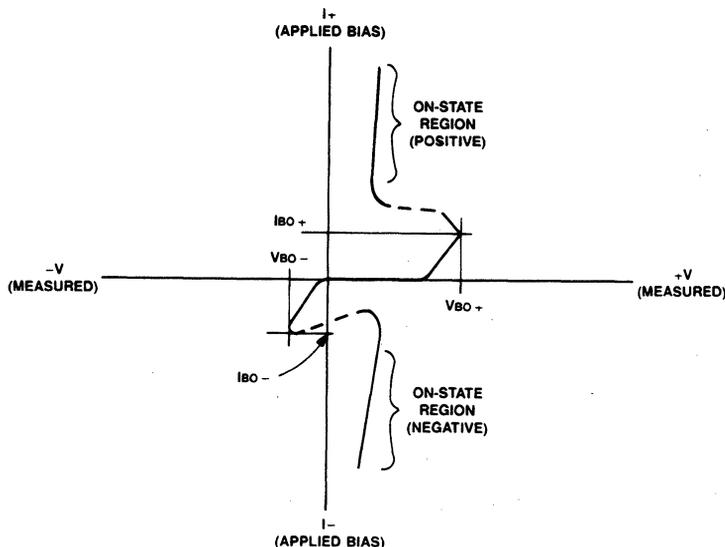

Figure 1. Symbolgy For Test Characteristics
- A ramped bias current (1% duty cycle) is applied to the appropriate I/O or O/I pin. Breakover voltage is measured as the peak magnitude of voltage which occurs as the bias current is increased in magnitude from zero to a value which forces the device into the low impedance on-state region of its characteristic (Figure 1). Polarity designations should be observed with respect to GND.
- Breakover current is that value of current applied to the specified pin at which the breakover voltage peak occurs (Figure 1).